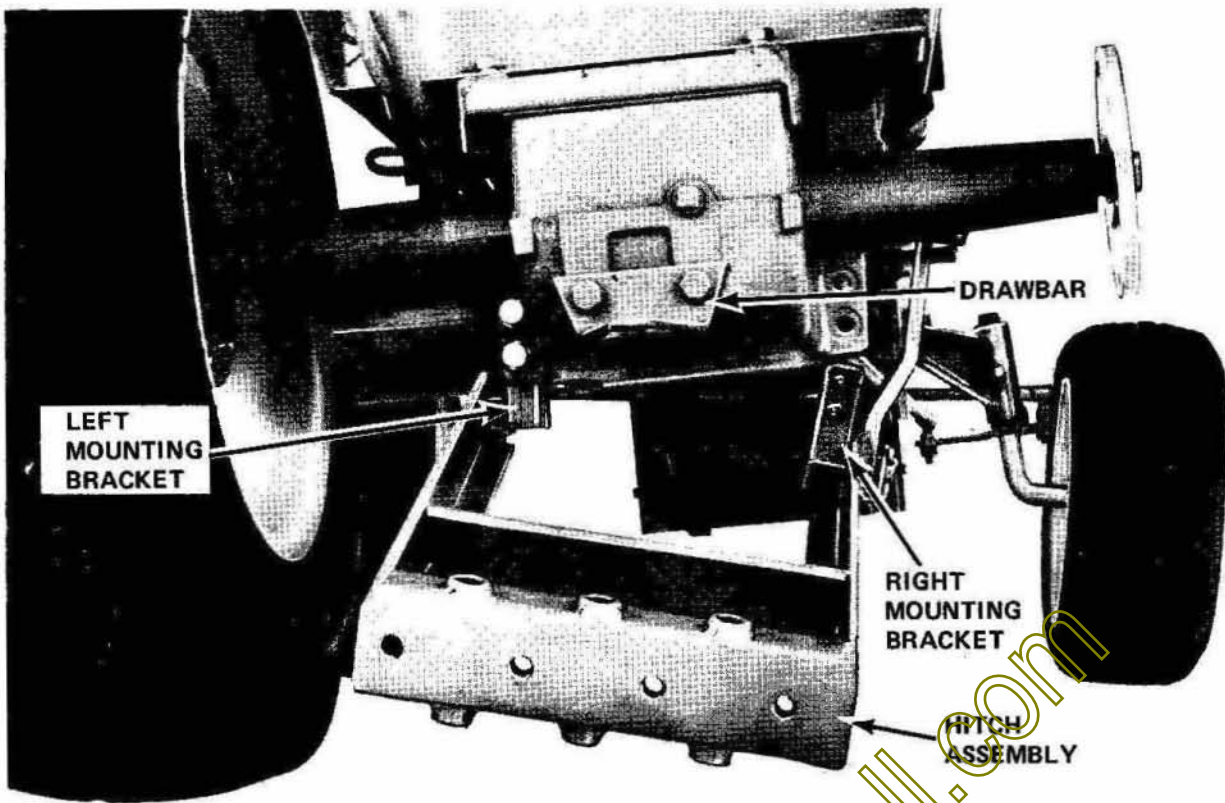

FIGURE 6 (Wheel and Tire removed for clarity)
### TRACTOR DRAWBAR - See Figure 6.
B. Perform the following: See Figures 6 and 7.